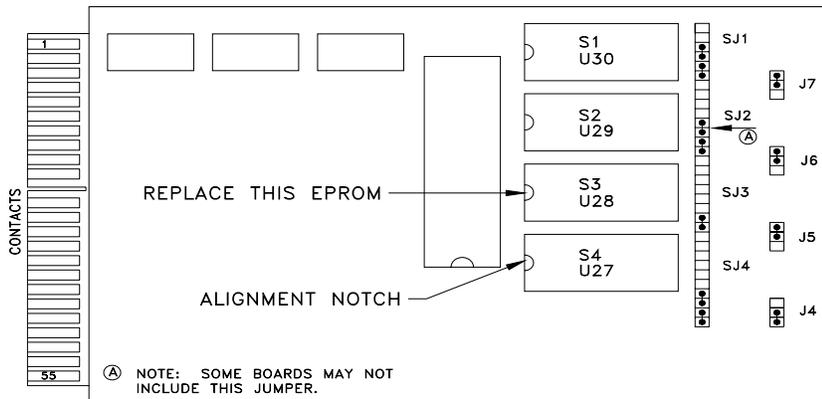

Figure 6. Top of 1822 CPU card showing the positions and orientation of the EPROMs
- Figure 6 shows the top of the CPU board and the EPROM sockets, which are labeled S1–S4 or U30–U27, depending on the revision. Locate socket S3 (or U28) and the EPROM that is labeled HW Config. (Contact Customer Service at Quantum Design if this EPROM is not in socket S3 or U28.)
2. Carefully insert the new EPROM into the empty S3 (or U28) socket on the CPU board, with the alignment notch in the position shown in Figure 6, by placing the chip over the socket and aligning the pins with the socket holes. When the pins are in place, gently press down on the top surface of the chip. Press the chip into the socket until it is fully seated.
3. Verify that the alignment notch on the new chip is oriented correctly—the notch should point to the side of the CPU board that has the contacts (see Figure 6).